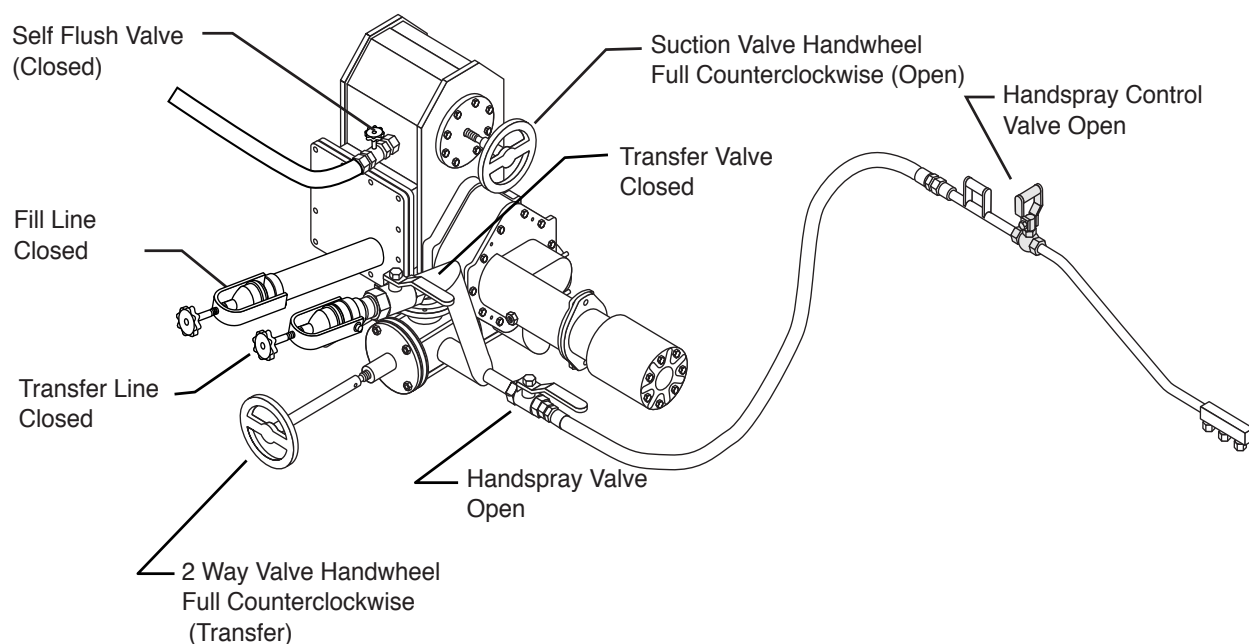

Figure 6. Valve Positions for Handspray Suckback
1. Set the *Pump Directional* valve to *Reversed/Suckback* (see Figure 6).